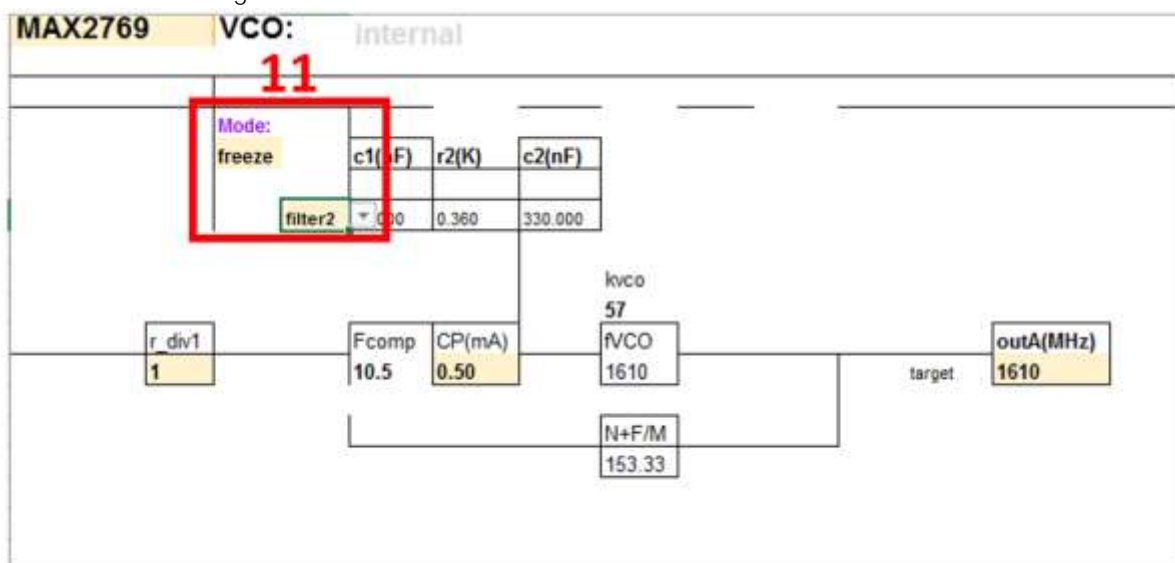

Figure 7. Loop filter spreadsheet calculator mode.
13. Based on the parameters and loop filter values calculated, the phase noise is simulated and shown in Figure 7.